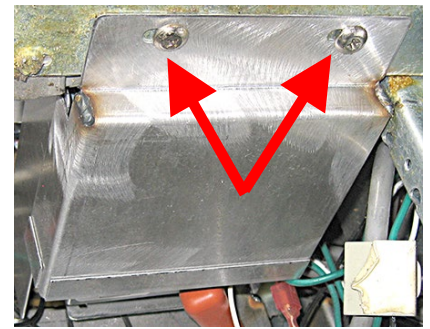

Figure 66
67. Reattach module covers (see Figure 66).